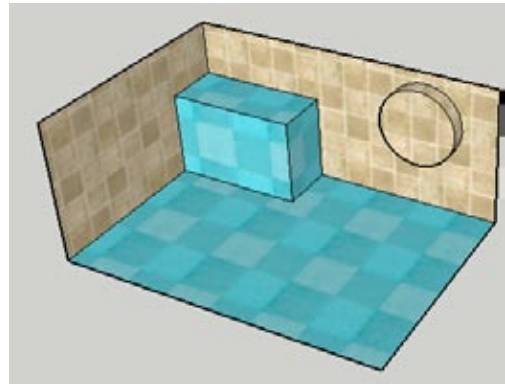

Figure 6-26
- When you pull out these shapes, the objects that are created have the same material as the face from which they were pulled (Figure 6-26). Obviously, you could change the materials, but that takes some extra steps.